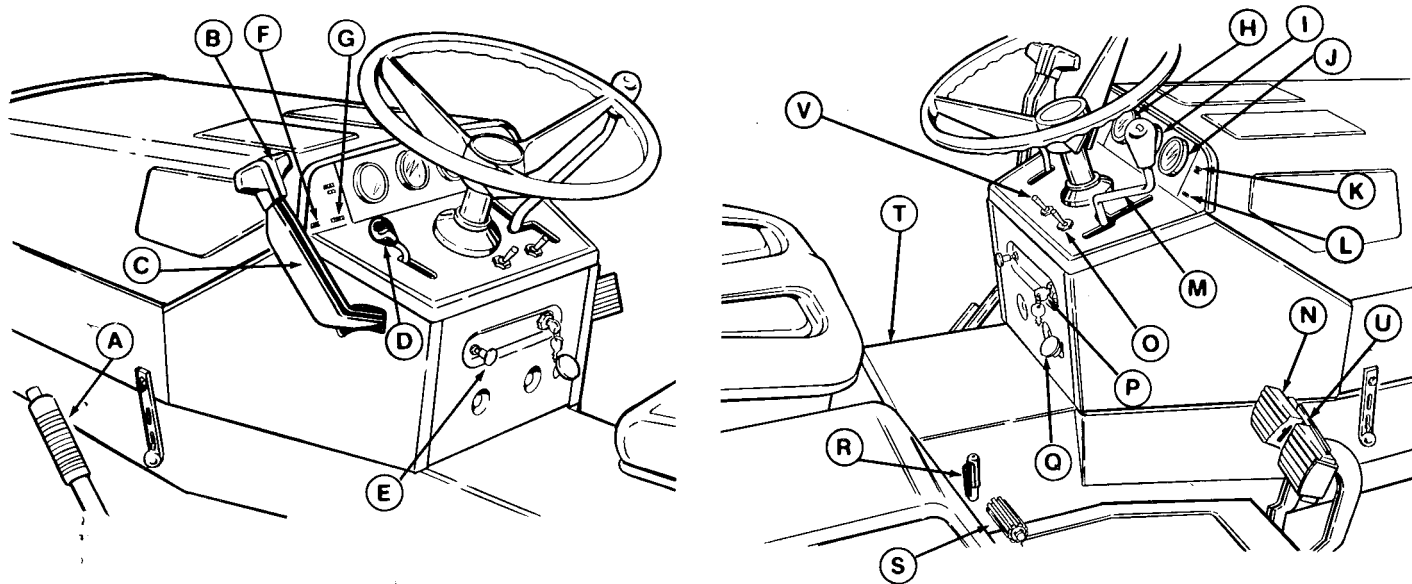

Figure 1. Controls (20 HP Model Shown)
Controls are explained in Figure 1.
2. Place ground speed control lever in neutral. Set parking brake. To set, depress pedal(s), pull knob (Q, figure 1) out, then release pedal(s). (On 18, depress one pedal, on 20 HP lock pedals together and depress).
4. Pull choke knob (E) out. Warm engine may not require choke.
5. Place throttle lever (D) approximately 1/4 speed. See engine manual for starting information. If engine is hot, set throttle at half-speed to re-start.
6. Turn key (P) to START to start engine. Push in choke as engine warms up.
1. Move ground speed control (M, figure 1) to neutral or depress both brake pedal(s).
4. To set parking brake, depress pedal(s) and then pull out knob (Q). Release pedal(s) while holding knob out. (On 20 HP tractor, latch two pedals together.) To release brake, depress pedal(s).
To travel to work site, raise mower using hydraulic lift lever. At work site, select desired cutting height with control lever (A, figure 1). Press button on top to release and move lever to different notch. Engage mower while ground speed control lever is in neutral.